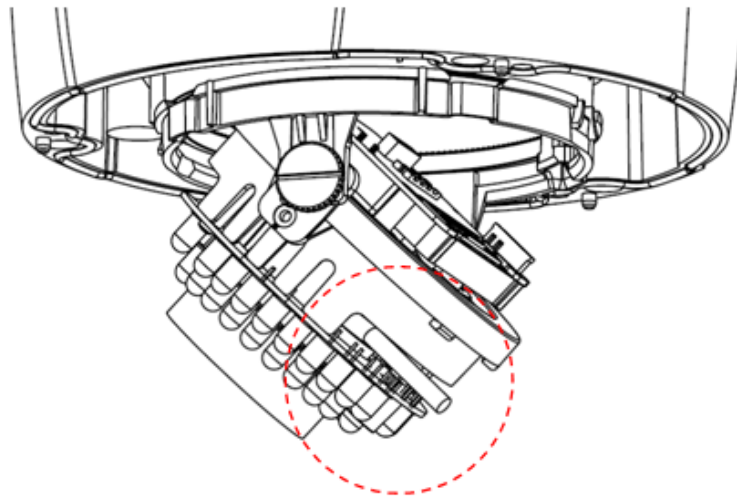

Figure 3-4
**Please note, the screws in the following figure are the optical adjustment component. Please make sure it is outward and do not allow it to touch the X-Y-Z axis module. See Figure 3-4**